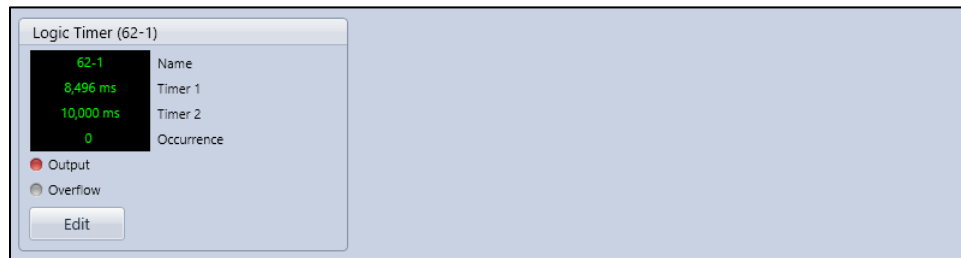

Figure 45-10. Logic Timer Status Screen
To view logic timer status using BESTCOMSPi.us, use the Metering Explorer to open the Status, Logic Timer (62) screen shown in Figure 45-10. To view logic timer status from the front-panel display, navigate to Metering, Status, Logic Timer (62).